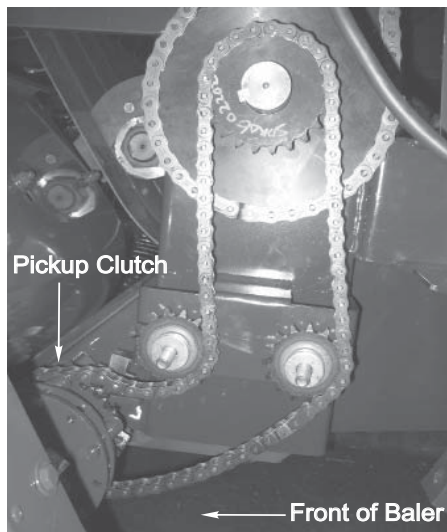

Figure 1-5 Pickup Drive Chain
4. Connect pickup drive chain on left side of baler (see Figure 1-5). Make sure to replace pickup chain guard when finished (see Figure 1-6).